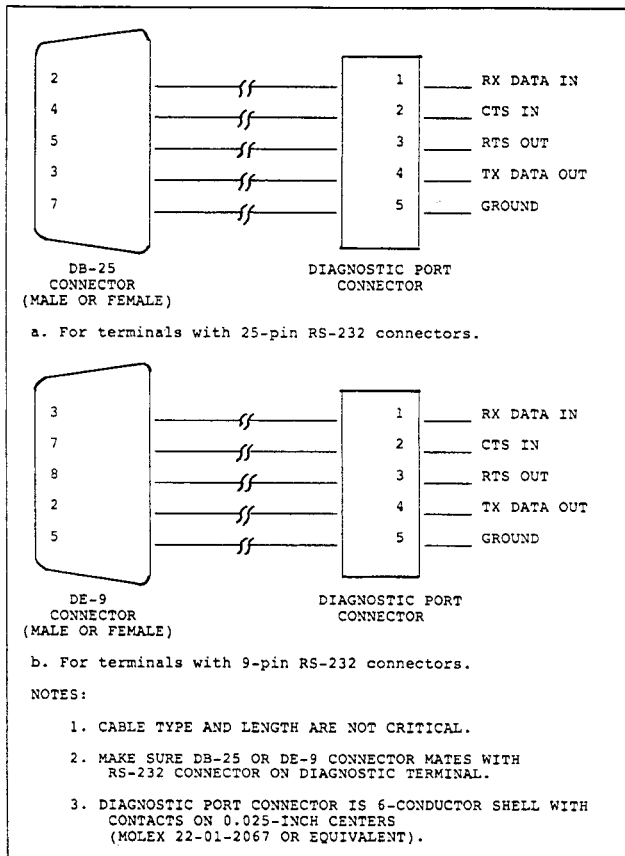

Figure 3-10. Construction details, diagnostic terminal cable for RFL 9720 CCM verification
4. Diagnostic terminal cable. (See construction details in Figure 3-10.)